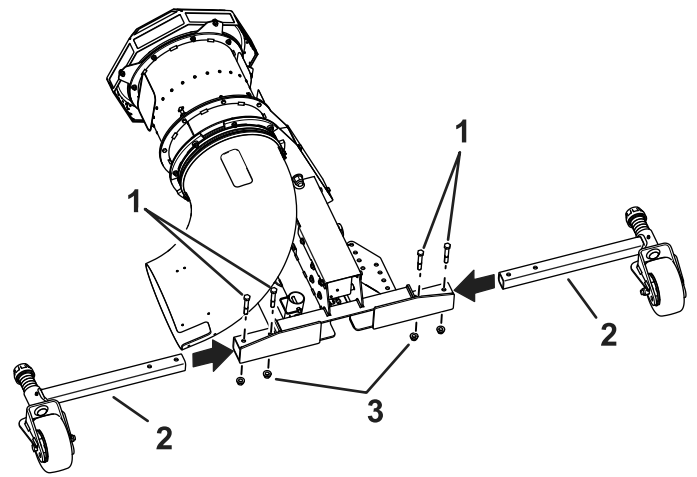

Figure 4
5. Install the caster wheels to the machine with 4 bolts (1/2 x 3-1/2 inch) and 4 flange locknuts (1/2 inch); refer to Figure 4.